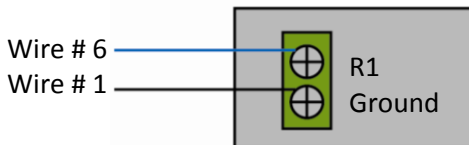

Figure 1. Wiring of a 2-position MX Series II Module. Wire colors will vary.
2. For 2 position MX Series II Modules connect wire #6 and wire #1 of the interface cable to the contact closure on your instrument. See Figure 1.